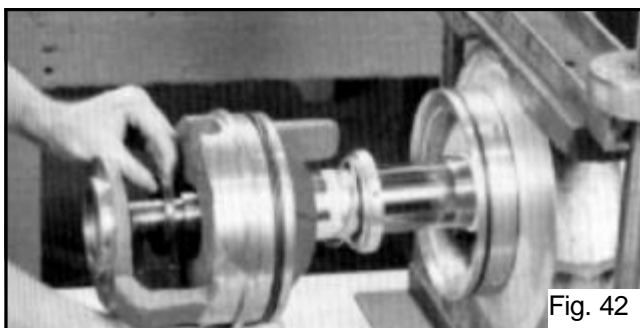

Fig. 42
7. Slide both stuffing boxes (3-073-9) off of the shaft, working deflector rings (3-136-9) off the shaft at the same time. (See Fig. 42)